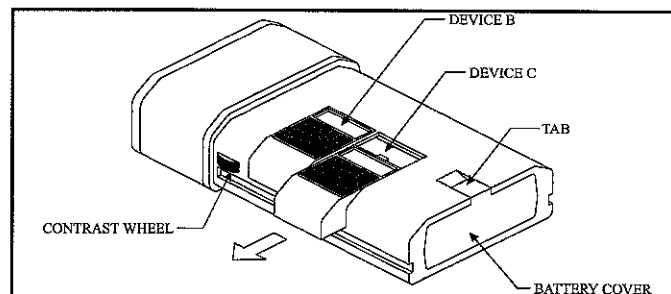

Figure 15 - Device B and C
The HHC/74 has an internal memory device A, and two external devices B and C which are the equivalent to the disc drives on a personal computer (See Figure 15). Each one can hold a Rampak, DataPak or Program Pak. The internal memory (A) of the HHC/74 holds about 31K RAM.